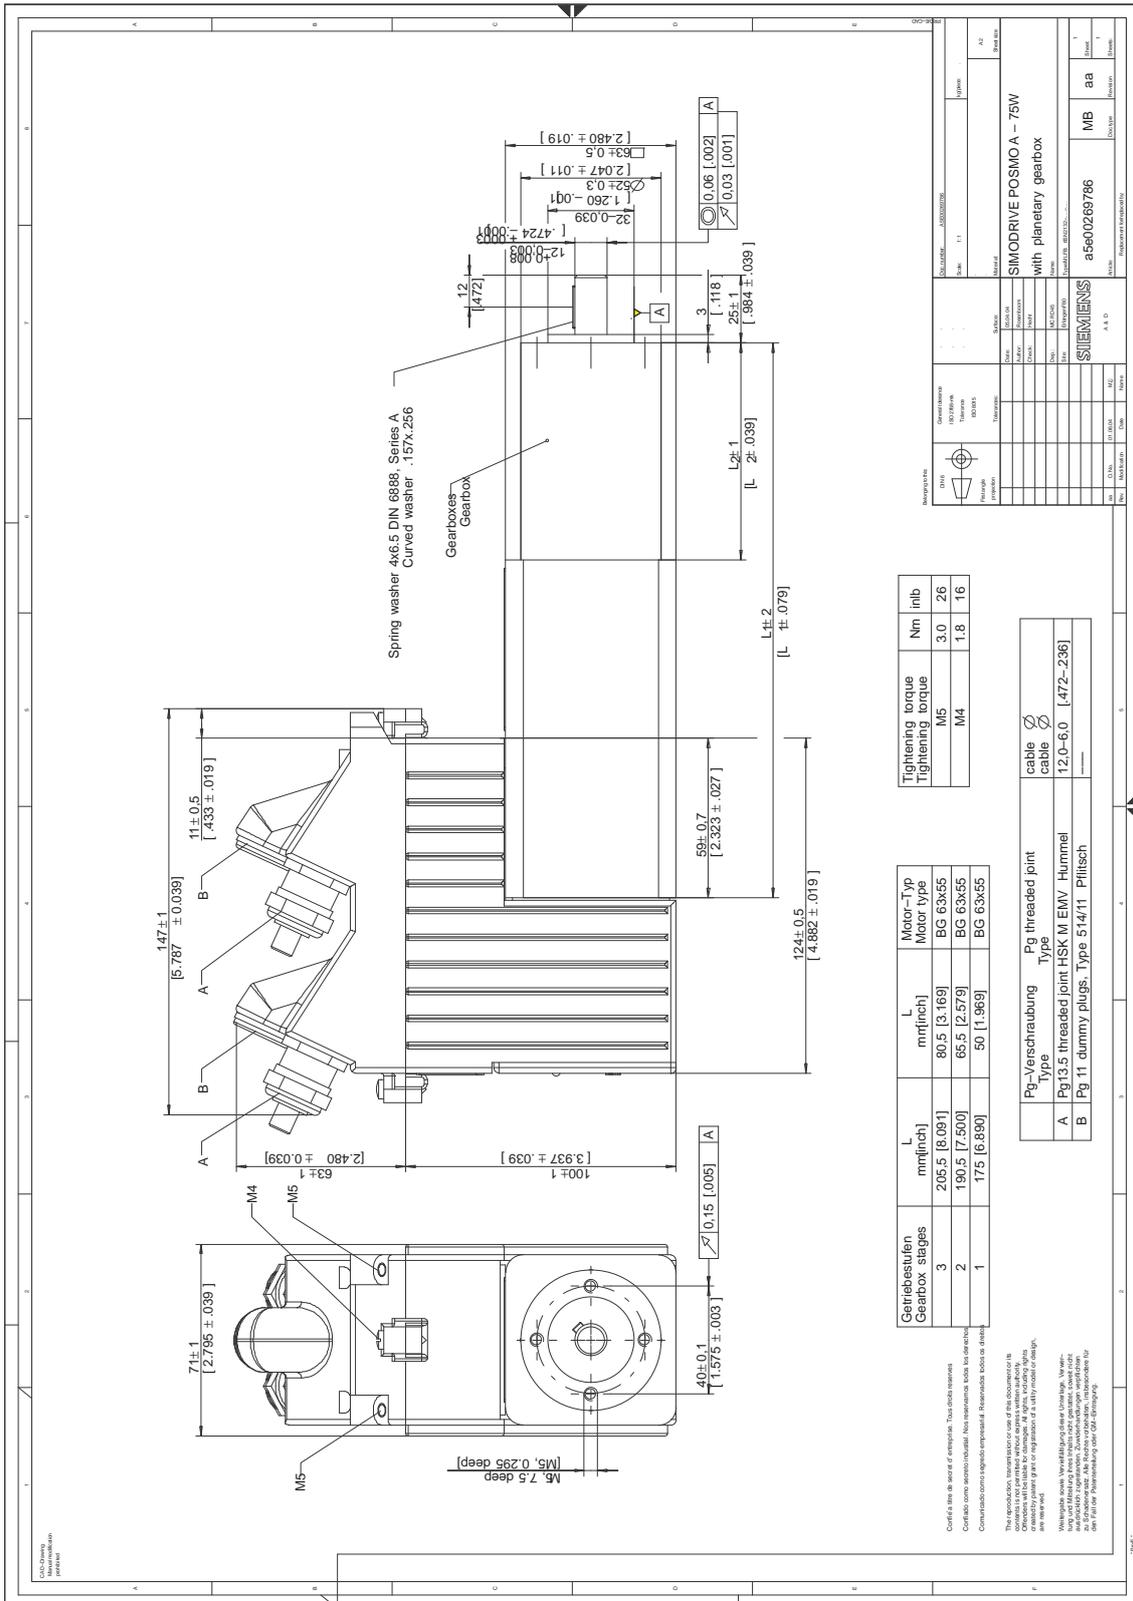

Fig. C-2 Dimension drawing: SIMODRIVE POSMO A – 75 W with planetary gearbox
- Motor with planetary gearbox, stages 1, 2, 3 —> refer to Fig. C-2